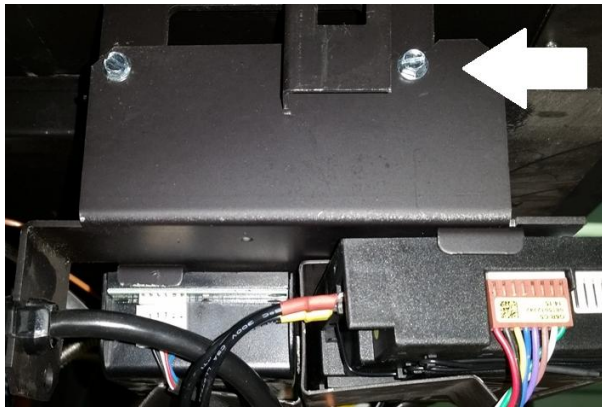

Figure 6 – Front Valve Mounting Bracket Screw (from left side of stove)
- 1) Loosen the front valve bracket screws with a 1/4" wrench, one per side (Figure 6).